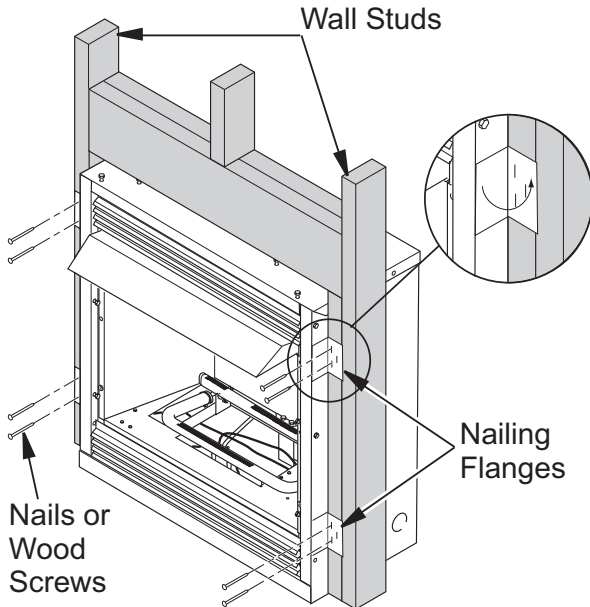

Figure 9 - Attaching Fireplace to Wall Studs
Built-in installation of this fireplace involves installing fireplace into a framed-in enclosure. This makes the front of fireplace flush with wall. An optional trim kit accessory is available (see *Accessories*, page 32). Trim will extend past sides of fireplace approximately 1/2". This will cover the rough edges of the wall opening. If installing a built-in mantel above the fireplace, you must follow the clearances shown in Figure 9, page 10. Follow the instructions below to install the fireplace in this manner.
7. Bend four nailing flanges on outer casing with pliers (see Figure 9).